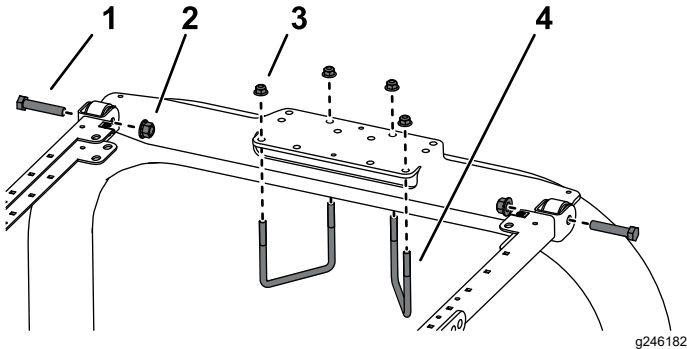

Figure 3
1. Position the ROPS-mount bracket onto the top of the traction unit roll bar (Figure 3).
2. Install the frame assembly to the ROPS-mount bracket (Figure 3).
3. Using the mounting holes shown in Figure 3, mount the ROPS-mount bracket to the top of